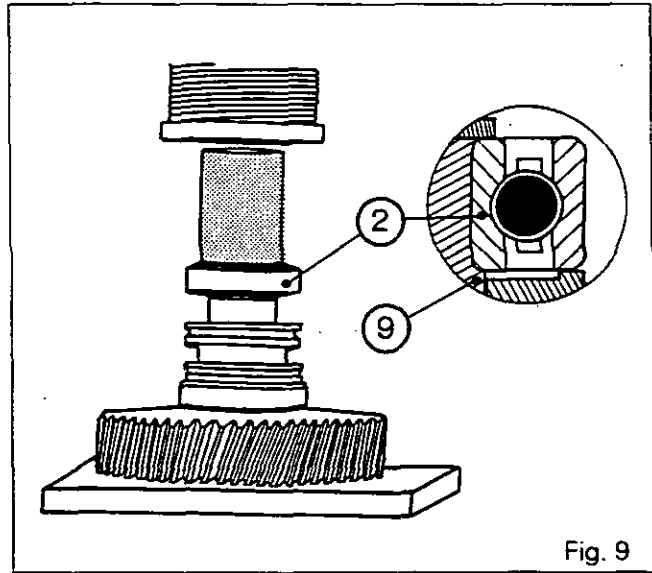

Fig. 9
41. Using a suitable device and a press, push the ball bearing (2) in until it meets the shoulder of the support housing (9) (Fig. 9).
42. Fit the circlip (1).
43. Replace and lubricate the O-rings (11), (25) and (26).